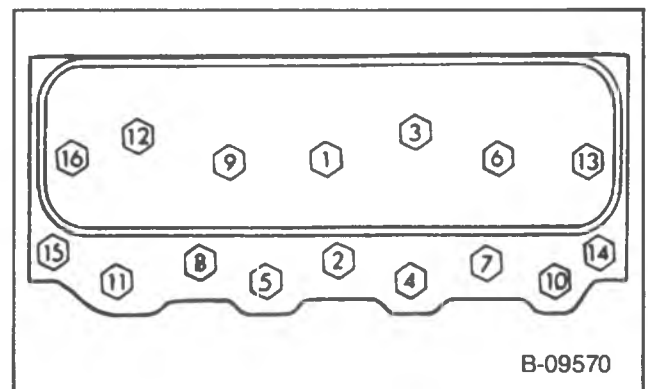

Figure 9 — Cylinder Head Bolt Tightening Sequence
Install or Connect (Figure 9)
- Cylinder head bolts, a little at a time, using the sequence shown in figure 9. Proper torque is 110 N•m (80 ft. lbs.).